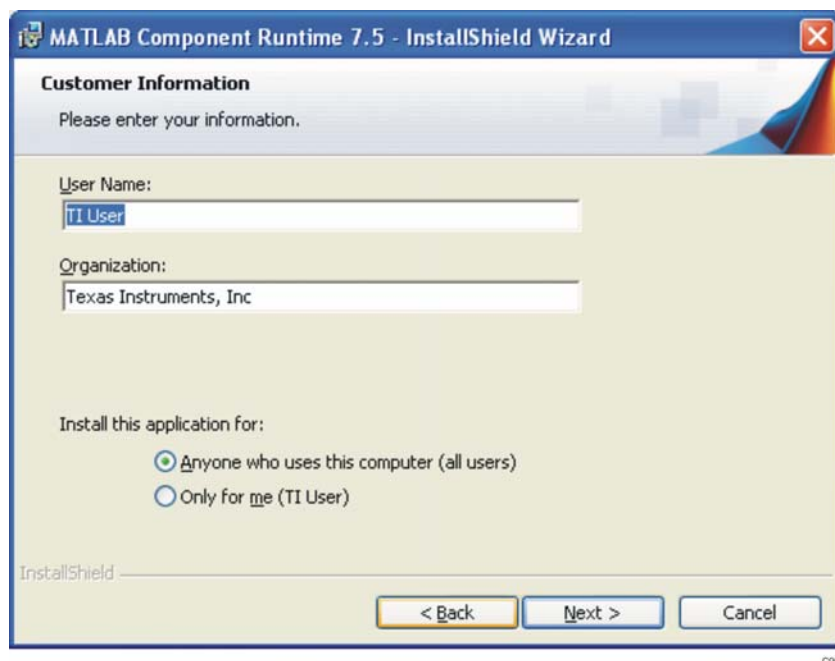

Figure 8. Customer Information
3. For the *Customer Information* (Figure 8) screen, specify the *User Name*, *Organization*, select the desired user option button, and click *Next*.